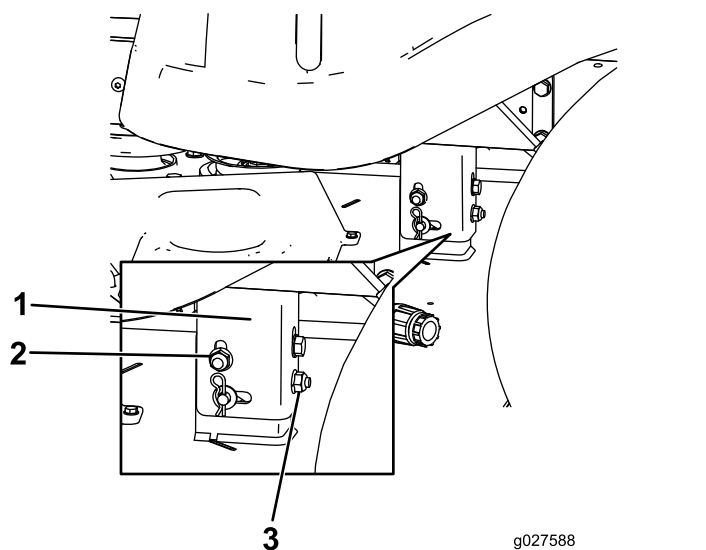

Figure 52
8. Raise or lower the left side of the mower deck by rotating the rear nut (Figure 52).
Note: Rotate the rear nut clockwise to raise the mower deck; rotate the rear nut counter-clockwise to lower the mower deck. (Figure 52).